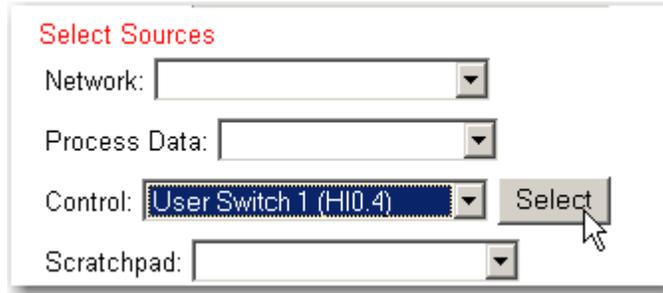

FIG. 338 SOURCE/SELECTING USER SWITCH 1
Step 5. Click on “User Switch 1”. A Select button appears. (See Fig. 338)